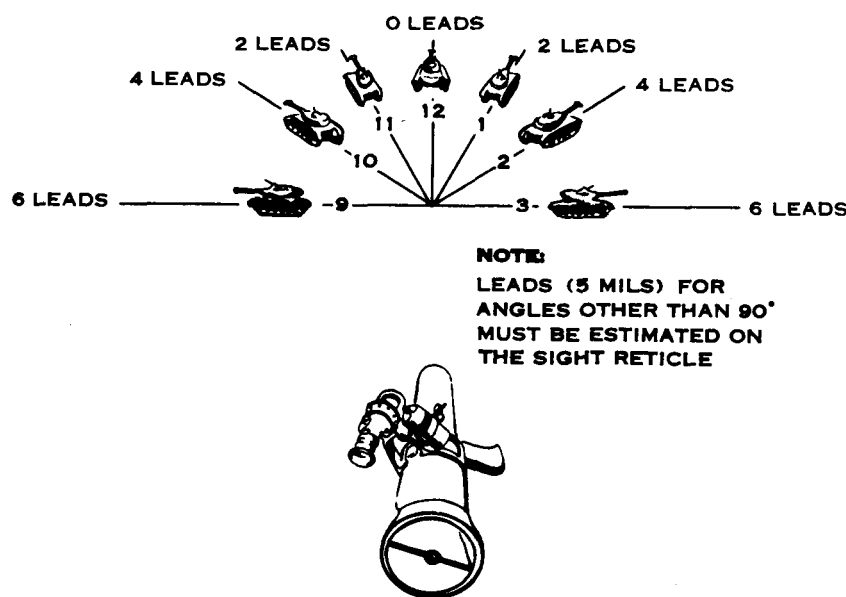

Figure 41. Common lead rule.
c. An alternate means of determining leads is the common lead rule. The number of leads required is determined by the direction the target is moving in relation to the gun position (fig. 41). Target speed is assumed to be 15 miles per hour. If the target is moving directly toward or away from the gun position, no leads are required. If the target is moving from 1 or 11 o'clock, two leads are used; from 2 or 10 o'clock, four leads; and from 3 or 9 o'clock, six leads.